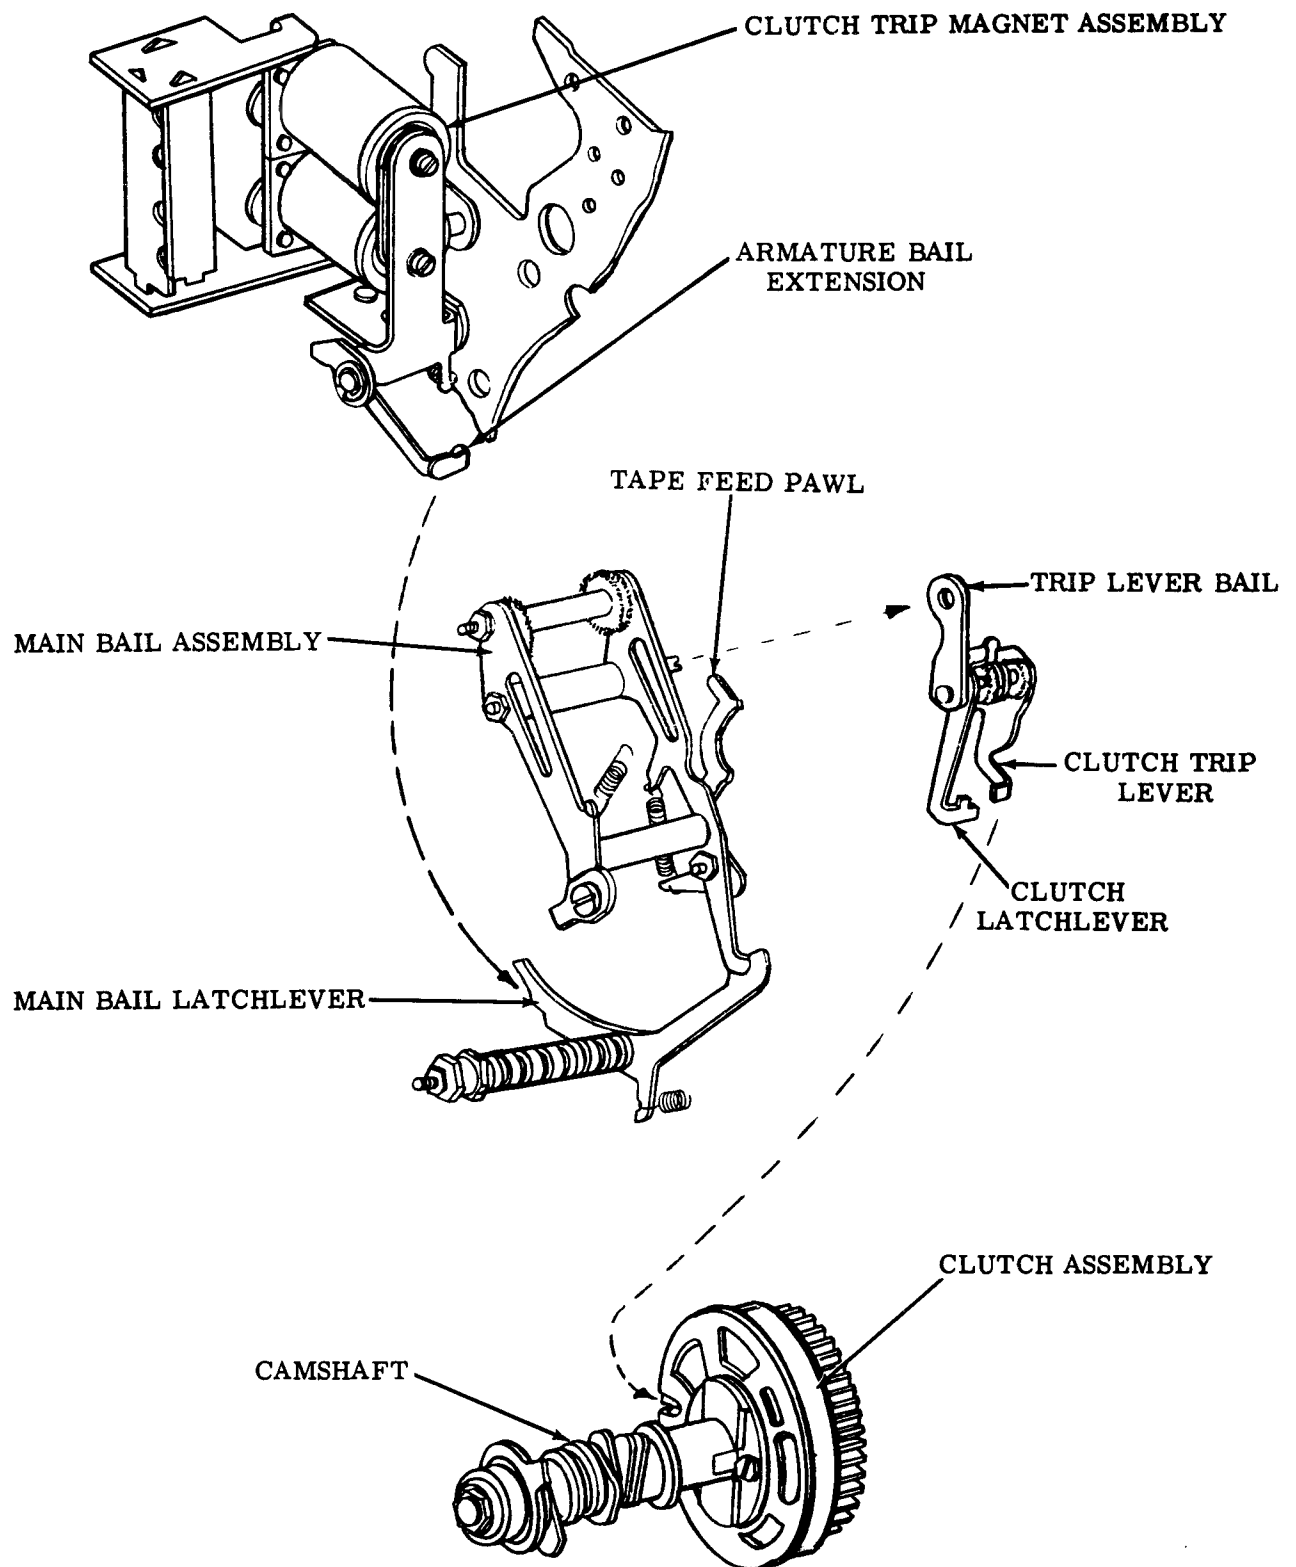

Figure 9 - Function Control Mechanism
4.02 The operating cycle starts with the transmitter distributor in the idle signal line condition, the drive motor running, tape in the unit, and the external portions of the transmitter distributor circuits complete. Move the control lever (Figures 5 and 8) to the RUN position. This positioning energizes the clutch trip magnet by completing the circuit through the start-stop and tight-tape contact assembly. Thus, the contact closes to complete the clutch trip magnet circuit, energizes the magnet, and pulls the armature up. The armature bail extension (Figure 9) cams the main bail latch lever about its pivot post to release the main bail.
4.03 The clutch trip bail is reset by an eccentric on the main bail. The eccentric rides in the slot of the clutch trip bail. When the eccentric on the spring biased main bail cams the clutch trip bail, the trip bail, in turn, moves the clutch trip lever (Figure 9) away from its latch. When the main bail is released, the clutch trip bail is also released by the interconnection. The main bail swings up drawn by the main bail spring and causes two actions to occur.
4.06 During the movement of the main bail, the clutch trip bail pivots on its axis and pushes the clutch trip lever away from the shoe release lever to engage the clutch and start the camshaft rotating (Figure 9).
permits the armature extension to pivot out of its blocking position and allows the main bail latch lever to be moved by its spring (Figure 9).